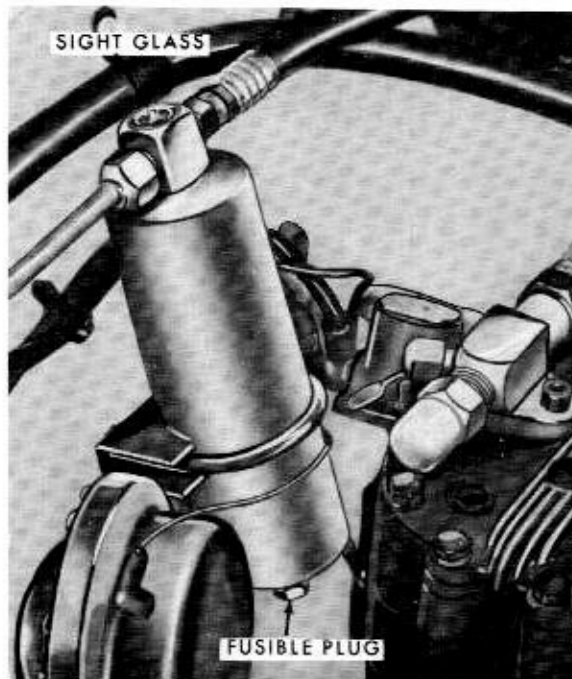

Fig. 6A-4—Receiver Dryer—(61CT-8804)
2. Disconnect the two lines from the receiver and plug the lines. (See figure 6A-4).
2. Remove the fan protection screen and loosen and remove the fan blade assembly. (See figure 6A-5.)